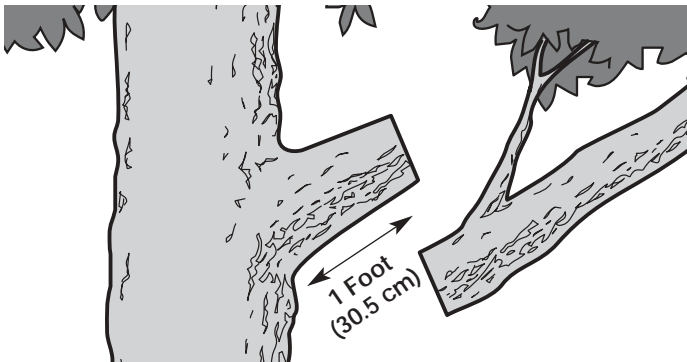

Fig. 13
2. Make the first cut one (1) foot (30.5 cm) from where the final cut will be (Fig. 13).